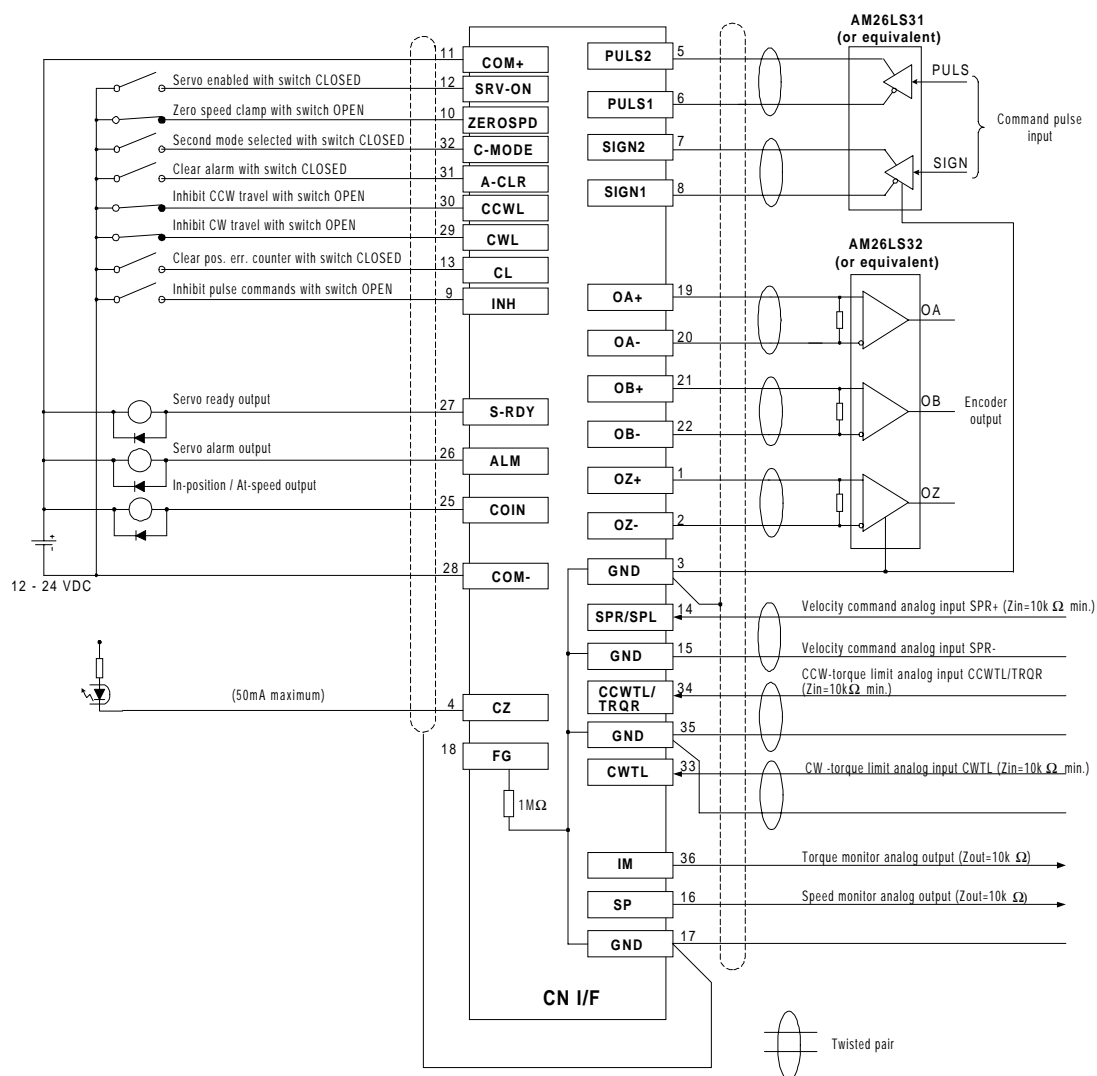

Figure 4-7. Interface Connector CN I/F for Z-Series Amplifiers with Parameter No.3F=0
All signal connectors on the SL Series amplifiers are a Mini-D style and require special tooling to properly manufacture the cable. Cables in several lengths are available from GE Fanuc for all of the amplifier connections, as shown in Table 4-4. Figures 4-7 and 4-8 show an overview of the connections to the CN I/F interface connector for each amplifier series. Chapter 5 provides more detailed information on the individual signal wiring and specifications.
4. If you directly drive a relay with any of the control output terminals, install a reverse-biased diode in parallel with the relay as shown in Figures 4-7 and 4-8. If you do not install a diode, or install it in the wrong direction, damage to the amplifier may occur.